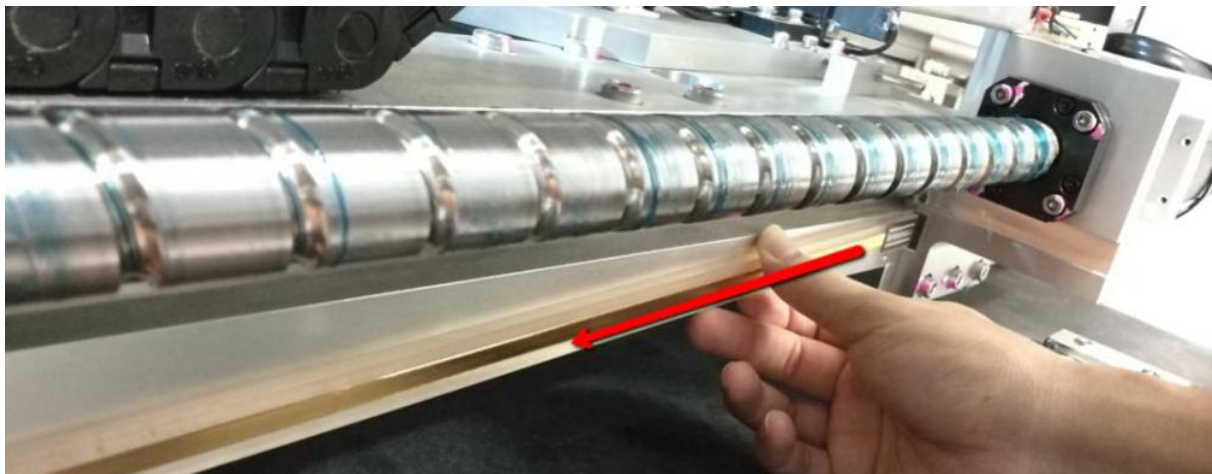

Figure 4 Glass scale removal
5. Gentle slide out glass scale towards left direction as shown in Figure 4.